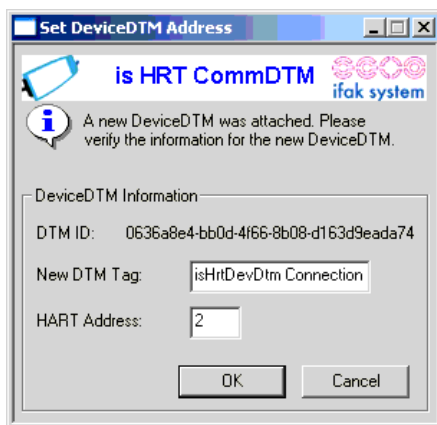

Figure 54. Change DTM Tag/Address
2. Click 'Set DTM Tag/Address' button. This will open a new window. see Figure 54